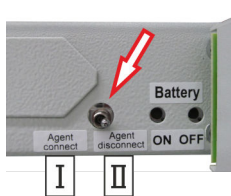

Fig. 21: Blocking switch
1. To block the system: Switch the blocking switch (Fig. 21/arrow) to "Agent disconnect [blocked]" (Fig. 21/ II).